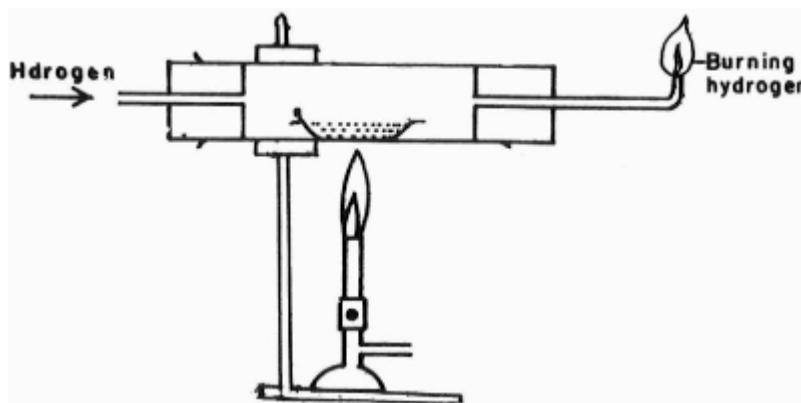

Figure 7.6 Reduction of copper(II) oxide with hydrogen
4. If a stream of dry hydrogen from the reaction in Experiment 7.1 is passed over heated black copper(II) oxide in a combustion tube for some time, the black copper(H) oxide will turn brown showing that it has been reduced to copper. The tube should be ignited at the open end to burn off any unreacted hydrogen (Figure 7.6). This shows that hydrogen is a reducing agent.